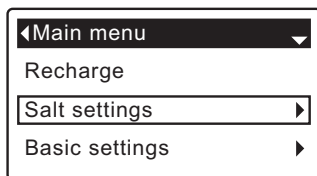

FIG. 29
1. From any of the rolling status screens, press the SELECT (O) button to display the **Main menu**.
2. Press the DOWN (▼) button to scroll through the menu options until **Salt settings** is highlighted (See Figure 29).